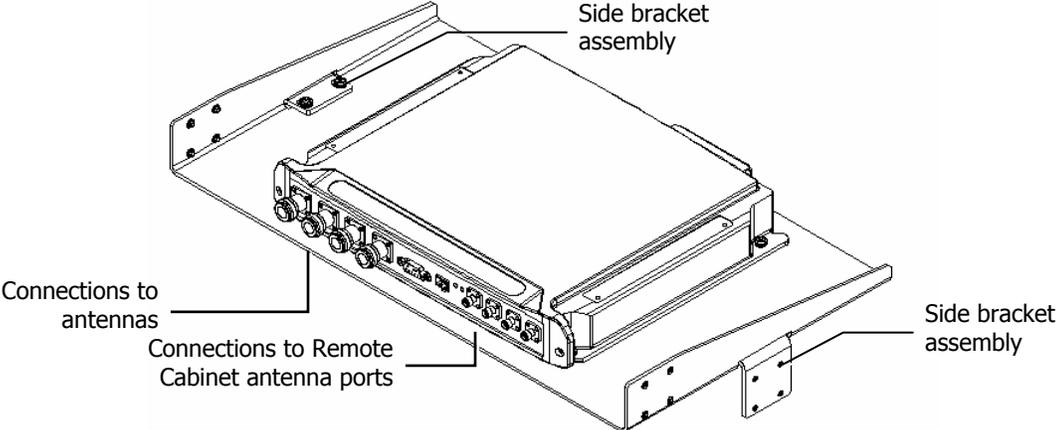

Figure 3-5. MA 850A1 Rack Installation
- 1. Assemble two side brackets to the plate sides as illustrated in Figure 3-5.
1. Assemble the side brackets as illustrated in Figure 3-5.